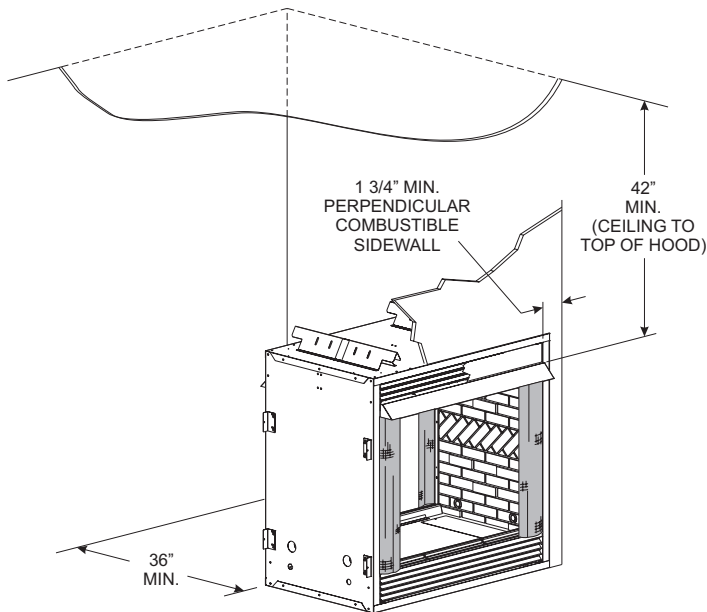

Figure 1a - See Through Firebox Clearances
**Sidewall Clearances:** The clearance from the inside of the firebox to perpendicular combustible side wall should not be less than 1 3/4". See Figures 1a and 1b.